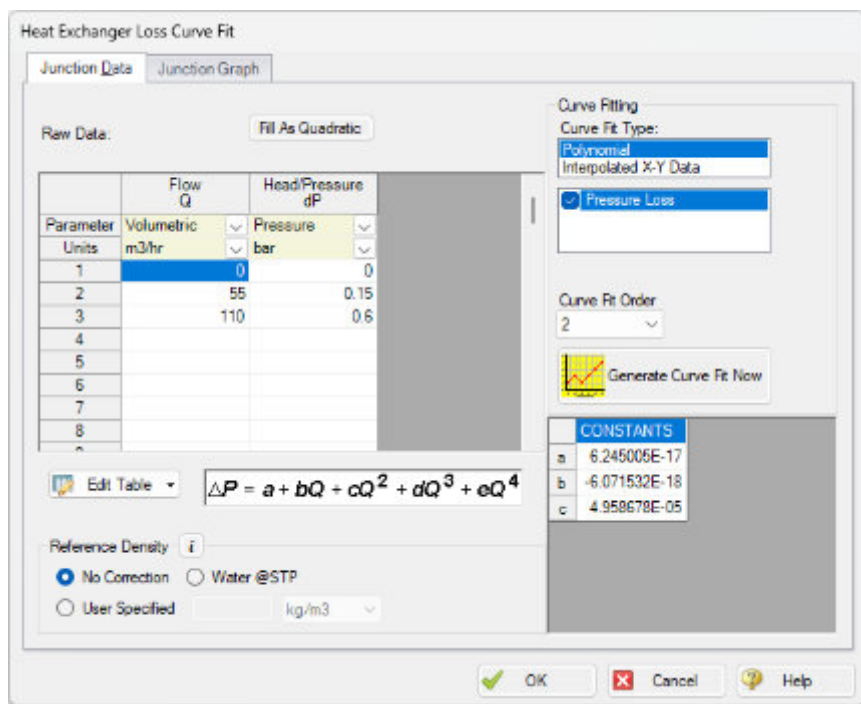

Figure 4.7 Heat Exchanger Loss Curve Fit window for the Freon Delivery System Example
3. Enter resistance curve data (see Figure 4.7):